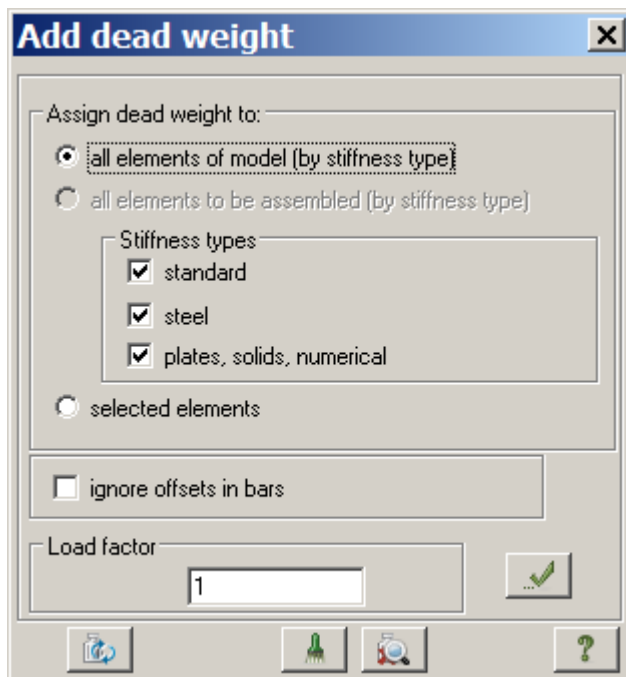

Figure 9.23 Add dead weight dialog box
- ⇒ In the **Add dead weight** dialog box (see Fig.9.23), click **All elements** and specify **Load factor** as equal to 1. Then click **Apply**  (dead weight of elements is added automatically).